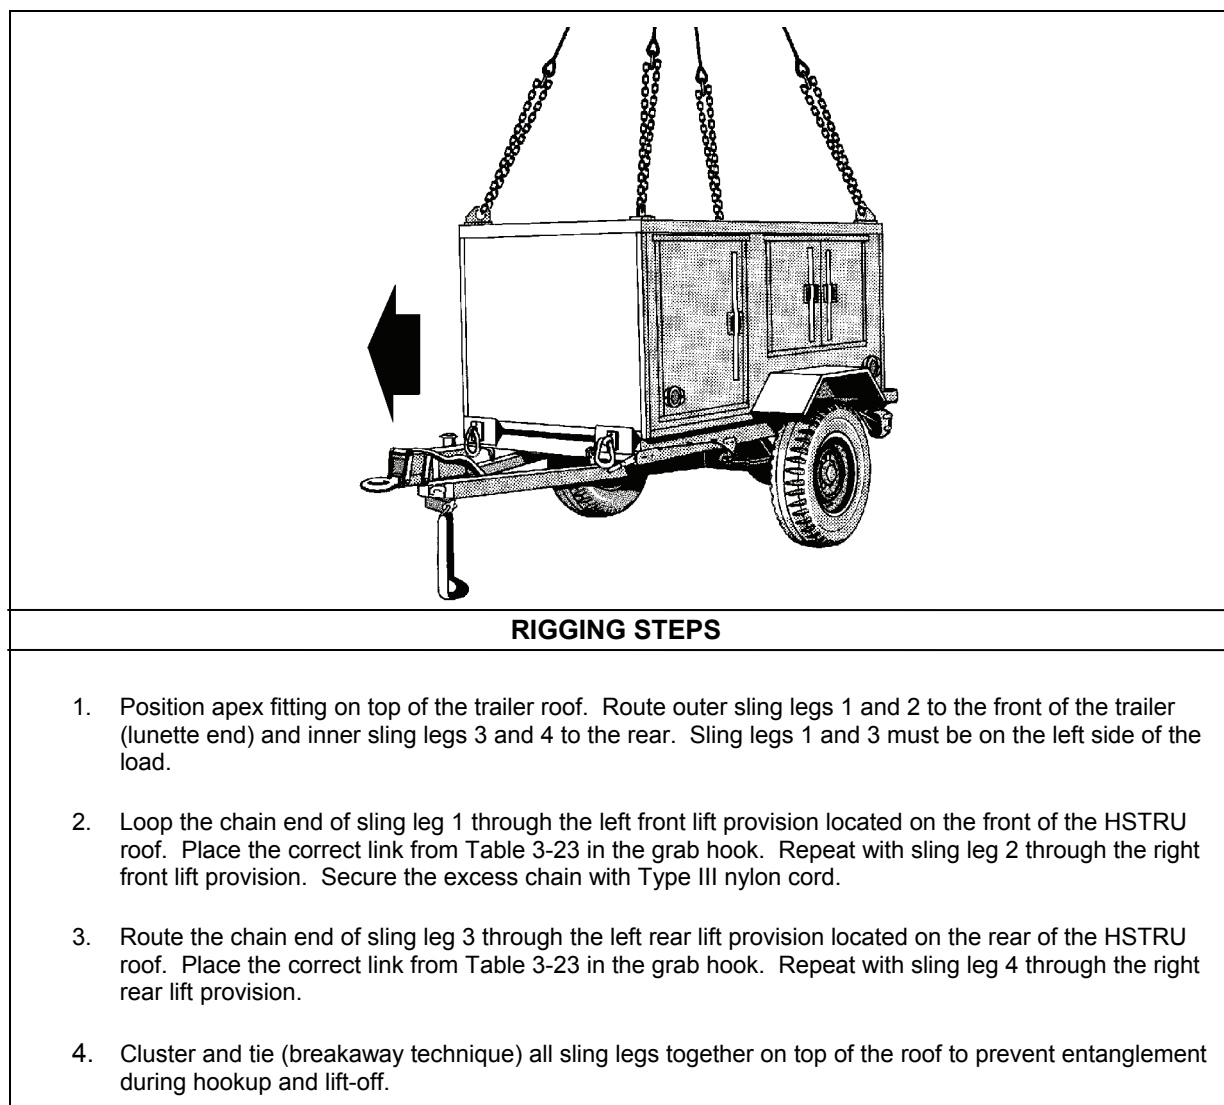

Figure 3-23. Hydraulic System Test and Repair Unit
- **Rigging.** Rig the load according to the steps in Figure 3-23.